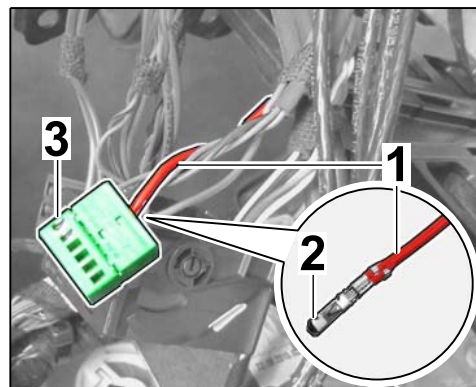

Figure 21
- 4.4.4 Crimp RD line ⇒ *Figure 21 -1-* from power supply wire harness and new socket contact ⇒ *Figure 21 -2-* together.
Close secondary lock ⇒ *Figure 21 -3-*.